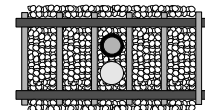
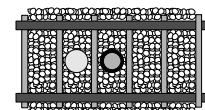
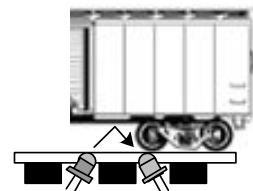

Figure 4a
Figure 4b
Figure 4c
The *Block Animator* (BA) provides automatic operation of two 3-color block signals in a semi-prototypical way. Four pairs of Infrared (IR) emitters and detectors are used for bidirectional train detection. Detection is achieved when the IR beam from the emitter reflects off the underside of the train back down to the detector. **Despite the use of infrared components you could still encounter false triggering from overhead lighting. This is usually eliminated with angled sensor mounting (Figure 4c) and/or proper sensor sensitivity adjustment (page 4). This version of the BA must be powered from either a 7-9V AC or 9-12V DC power source (such as our 12VPSR). Do NOT exceed these limits!** The layout of the signals and IR components is illustrated at left below; the illustration on the right is a side view of the IR detection method.
The IR components should be mounted between the rails. Drill two 11/64" holes, approximately 1/4" apart, through the ballast, roadbed, and sub-roadbed. For the smaller scales this drilling may end up hitting the ties. Take your time so you don't mangle them! Figure 4a illustrates the suggested placement of the IR components between the rails; you may also locate them a tie apart from each other (Figure 4b). Insert the leads of one IR emitter (white and black wires) into one of the holes (it doesn't matter which one!) from the top of your layout. Repeat for the IR detector (blue and black wires). The tops of the components should sit no higher than the top of your ballast for optimal IR performance; in some cases (e.g. false triggering) it may be necessary to locate the components a little below the ballast line. You can extend the leads with similar (or larger) wire. We recommend soldering and insulating these connections. Once you have wired the IR components and verified their operation you may wish to put a dab of white glue or silicone caulk where the wires exit the holes underneath the layout. This will help to hold the components in place; make sure you don't get any substance (e.g. ballast or glue) on the top surface of the IR components as this may prevent them from operating properly. **Figure 4c is a variation of Figure 4b. In this case the IR components are mounted at an angle to each other. The benefit of this method is reduced false triggering from overhead light and increased detection reliability in smaller scales or irregular bottoms on rolling stock.** The spacing between the outer sensors (W1 and E1) and inner sensors (E2 and W2) depends upon how long of a signal "block" you wish to define for each signal. However, keep in mind that there is a 35 second timeout that the **BA** uses. This means that if it takes more than 35 seconds for a train to activate the nearest inner sensor after clearing an outer sensor then the **BA** will think the train has actually backed up and exited the block!